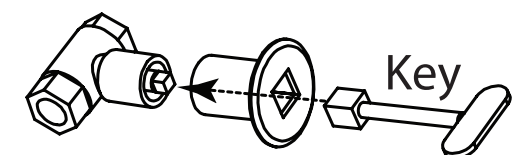

Fig. 9 Inserting Key into Valve
**CAUTION:** Do not assemble the OAS and U3-8D-S until you are ready to install the T-Burner into the burner pan. The OAS is 1½" in diameter and would not fit the recommended center hole size per Fig. 6 and Fig. 9.